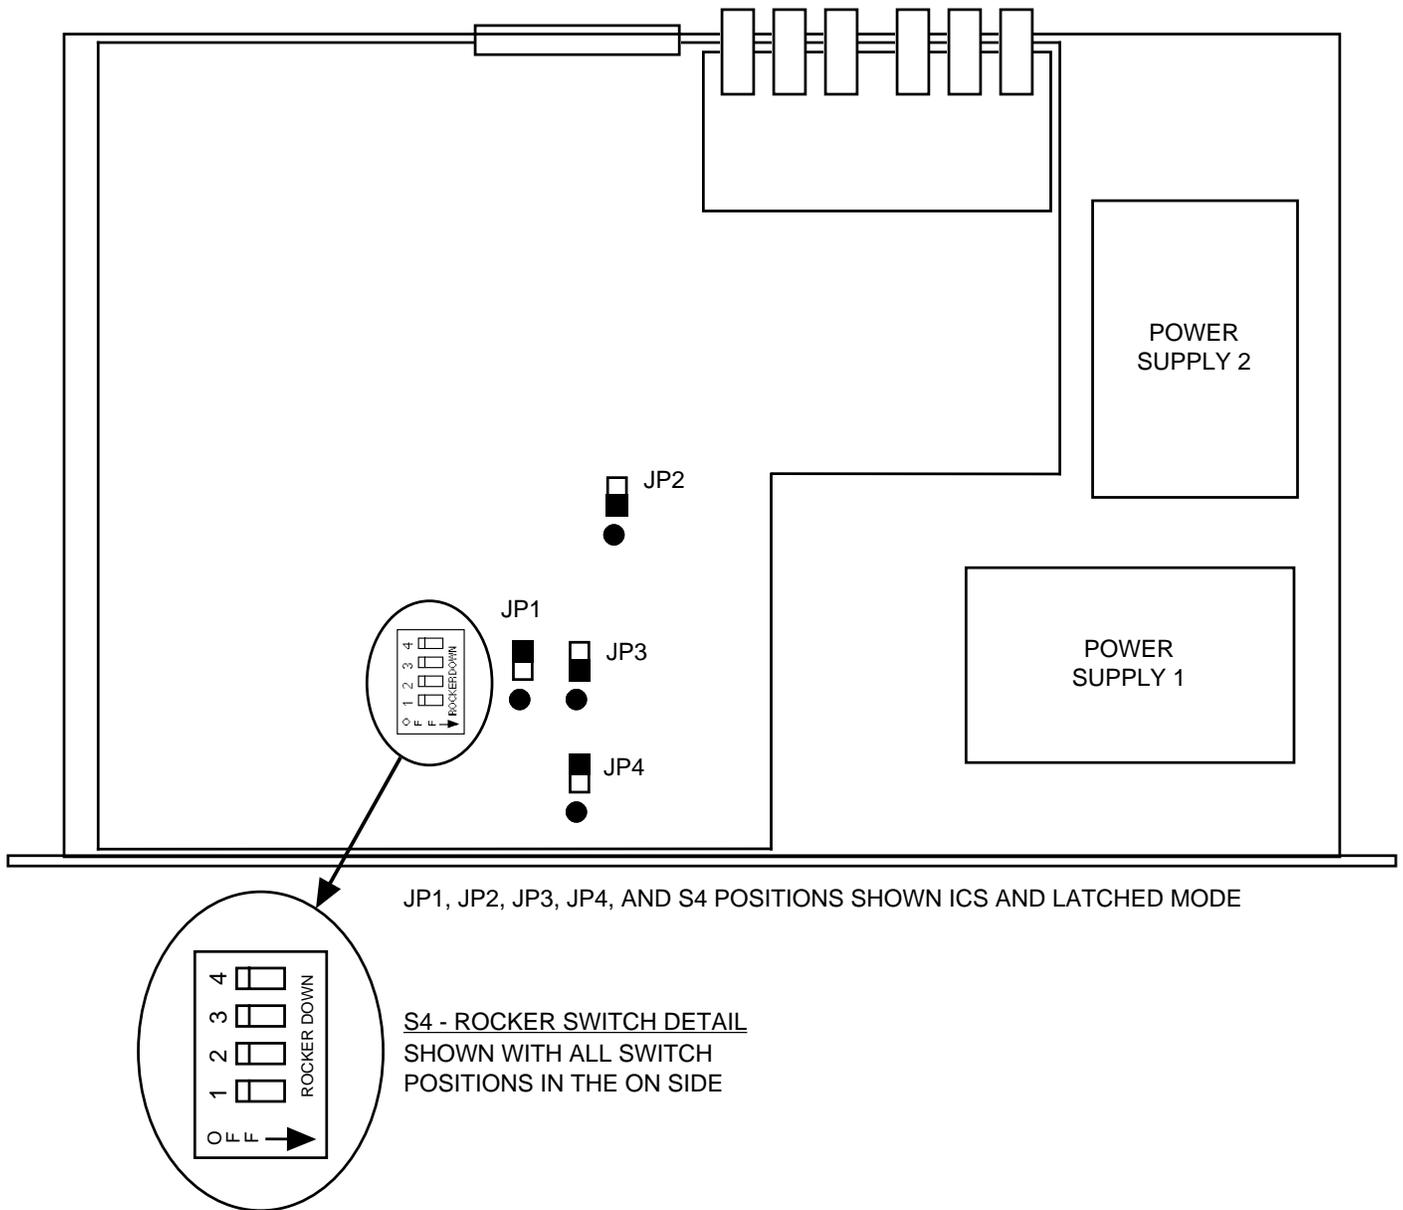

FIGURE 2.1 1582-22L RF Switch Assembly
1. Set the on board controls as desired (see Sections 2.3.1 and 2.5, and Figure 2.1).